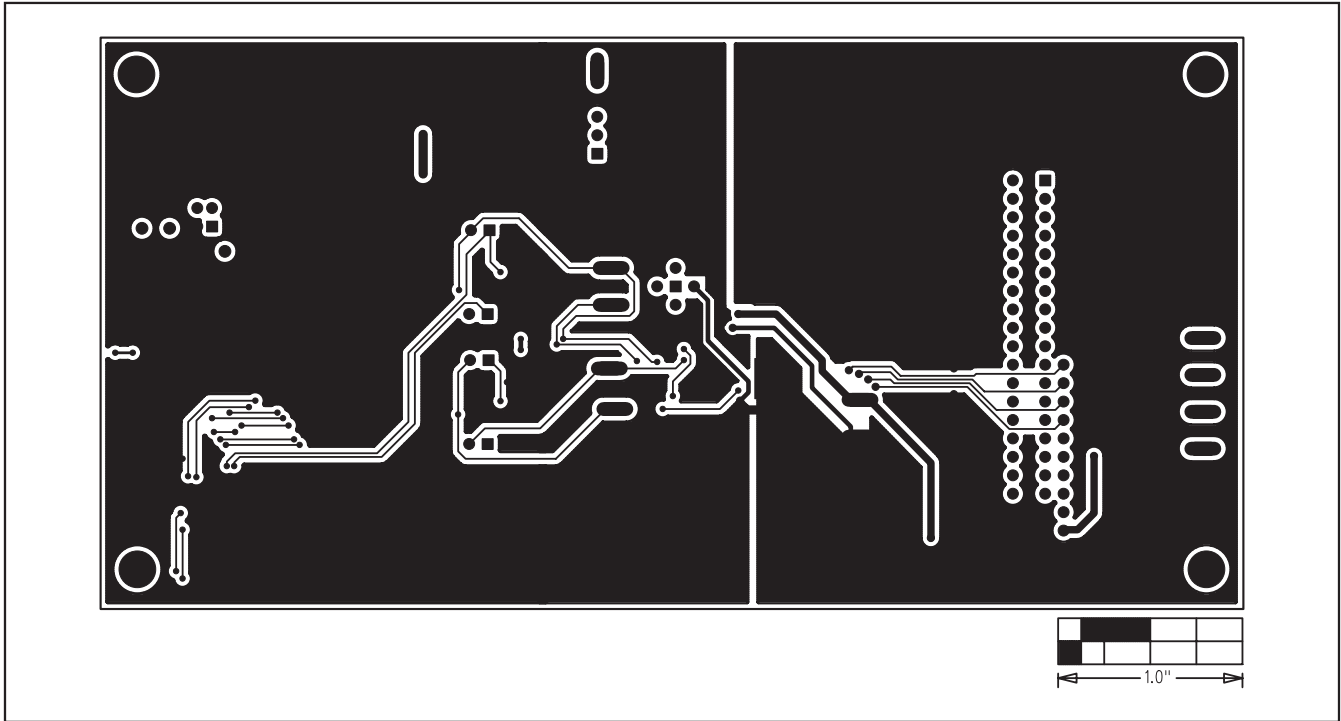

Figure 6. MAX9591 EV Kit PCB Layout—Solder Side
- 1) Viewing Figure 6, cut the SDA, SCL, STD\_REG, and BANK\_SEL traces immediately to the left of the corresponding PCB pad.